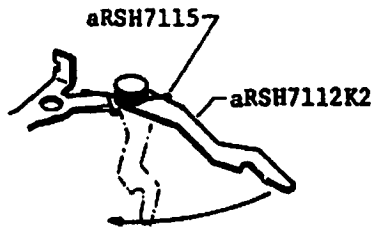

Fig. 125
(1) Charging lever (aRSH7112K2) shall move slightly by the force of Spring (aRSH7115) as shown in Fig. 125.